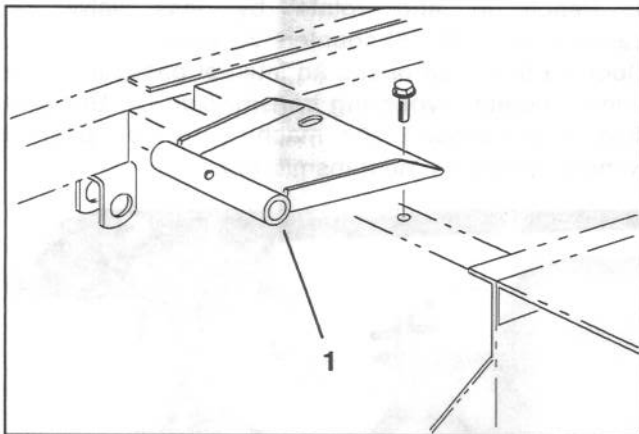

Figure 9
11. Mount seat pivot bracket to frame with (2) flange screws supplied in kit (Fig. 9)
14. Mount seat and seat support to seat pivot bracket with pivot shaft and roll pin (Fig. 9).